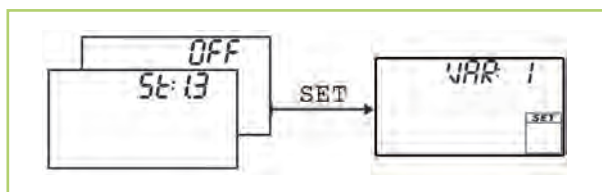

Fig. 6: Operating mode off - operation
- Displays that are automatically alternating are shown overlapping in the figures. Example: Fig. 6.
- "OFF" and the software version are displayed alternating. Example in Fig. 6: Software version St 1.3
- The variant display can be called (see Fig. 6)